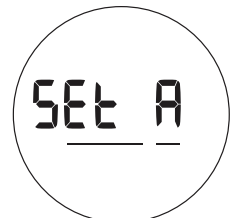

Fig. 40 - SET A GROUP
- > A + S (2 sec), while viewing Set F, will access Set A (Fig. 40).